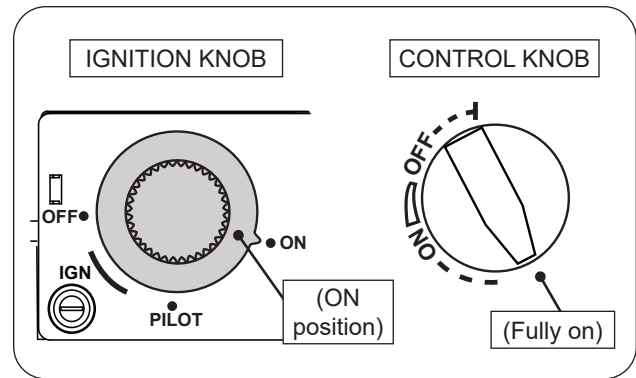

Fig. 27-1 Manual lighting
1. Ensure the pilot is burning. Turn the ignition knob counterclockwise ↺ to **ON** (see Fig. 27-1).
2. Turn the control knob counterclockwise ↺ to the fully ON position to ignite the burner (see Fig. 27-1).